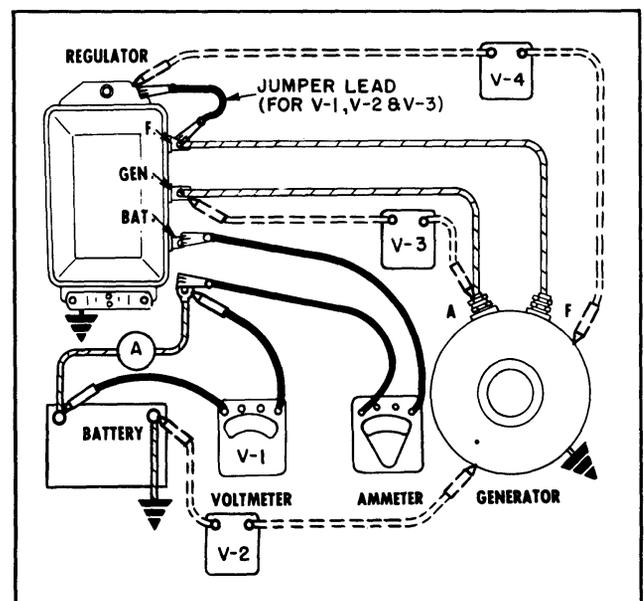

Fig. 13-6 Charging Circuit Test
3. Measure the voltage drop at  $V_1$ ,  $V_2$ , and  $V_3$  as shown in Figure 13-6. Readings  $V_1$  plus  $V_2$  should not exceed 0.5 volt. Reading  $V_3$  should not exceed 0.3 volt. If the voltage drop exceeds these limits, excessive resistance is indicated in the circuit checked.
4. Remove the ground lead at the "F" terminal of the regulator and, with the engine stopped, turn on the full lighting and accessory load. Measure the voltage drop at  $V_4$  in Figure 13-6. If this voltage drop exceeds 0.1 volt, excessive resistance is indicated in this portion of the charging circuit. If excessive resistance is found, check the wiring for defects and repair as necessary. Clean and tighten all connections.